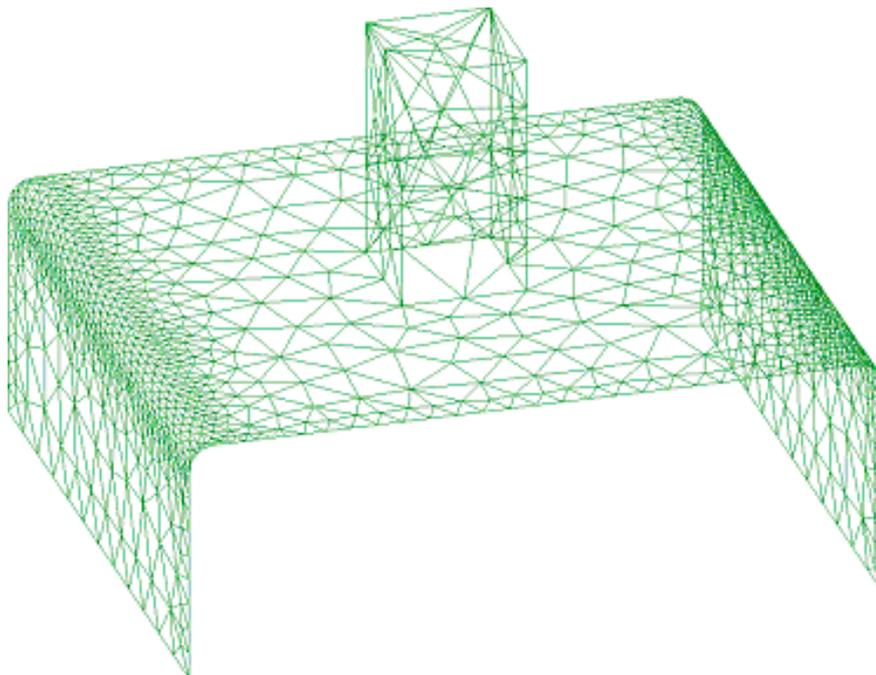

Figure 11. Mesh using the RJump mesher and assigning sizes by chordal error.
- 12 . Another window appears in which you can enter a maximum element size. Leave the default value unaltered and click **OK**. This results in a high concentration of elements in curved areas, without the nodes in the lines and points that mesher skips. Now our approximation is significantly improved (see Figure 11).